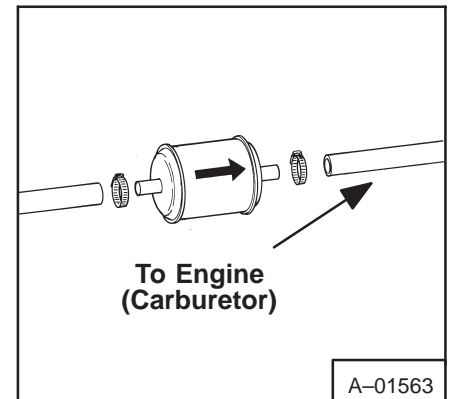

Fig. 1-20 Inline fuel Filter
4. Install fuel filter with arrow toward the engine (Fig. 1-20) and be sure fittings are tight.